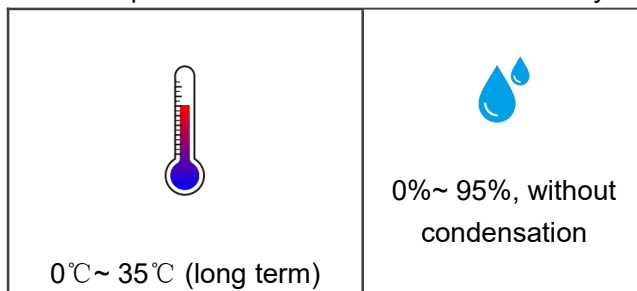

Figure3-4 Storage temperature and humidity
Figure3-4 Communication (5) and Battery Input(6) are the wiring positions on the inverter side ,The figure is for reference. Please refer to the actual inverter manual for specific usage.